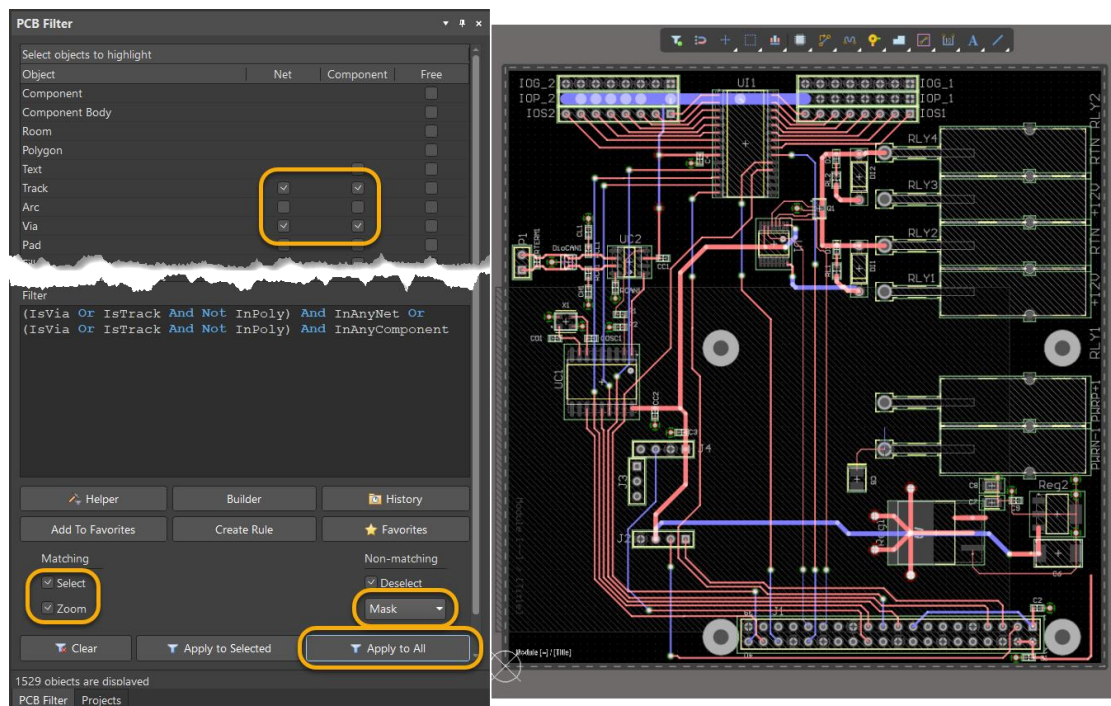

Figure 6. PCB Filter panel selections reflected in the PCB
16. From the topmost pane, enable the **Track** checkboxes associated with **Net** and **Component** as shown in Figure 6.
19. From the *PCB filter* panel, click the **Apply to All** button in the bottom right corner of the panel to see the effect of the query to the design. You should have tracks highlighted as shown in Figure 6.